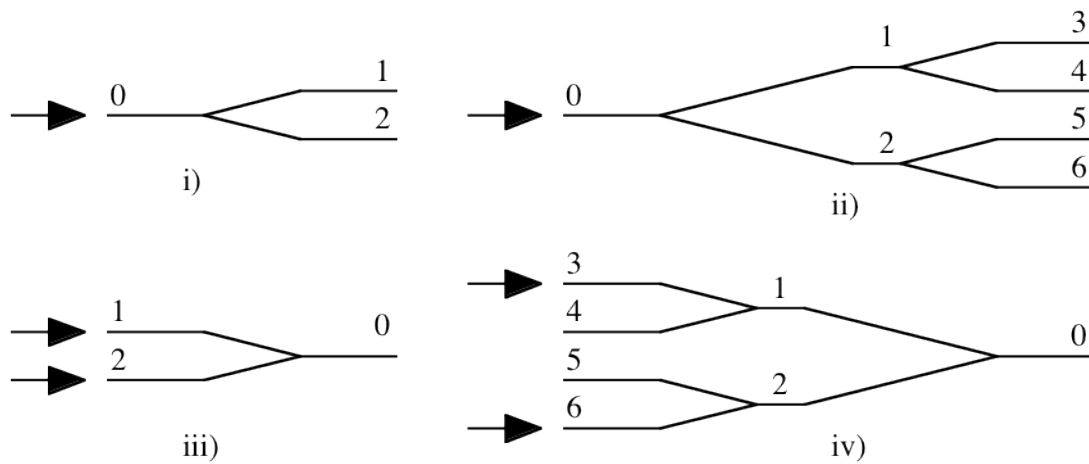

Figure 3.1
3. Figure 3.1 shows four different examples of single-mode channel waveguide devices based on Y-junctions. In each case, the ports are numbered, together with various intermediate locations, and the direction of the input is indicated.